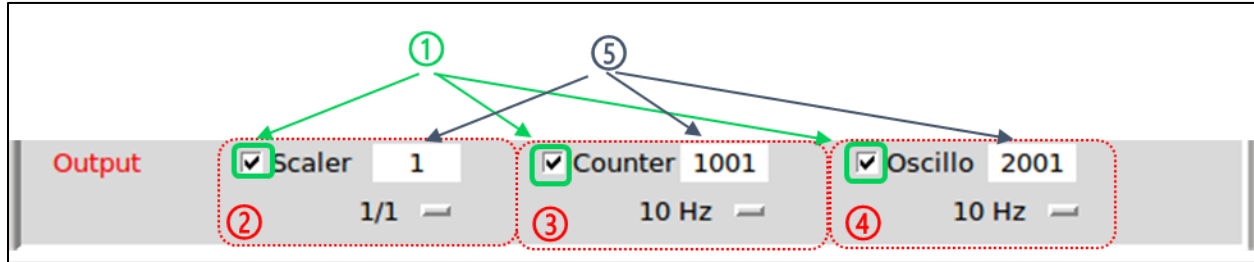

Figure 26: parameters of the Data output module
The Data output module (Figure 26) defines the output data sent to the computer by checking buttons ①. These data are:
- the data processed by the SCALER module ②,
- the counting data ③,
- the data from the Oscilloscope module ④.